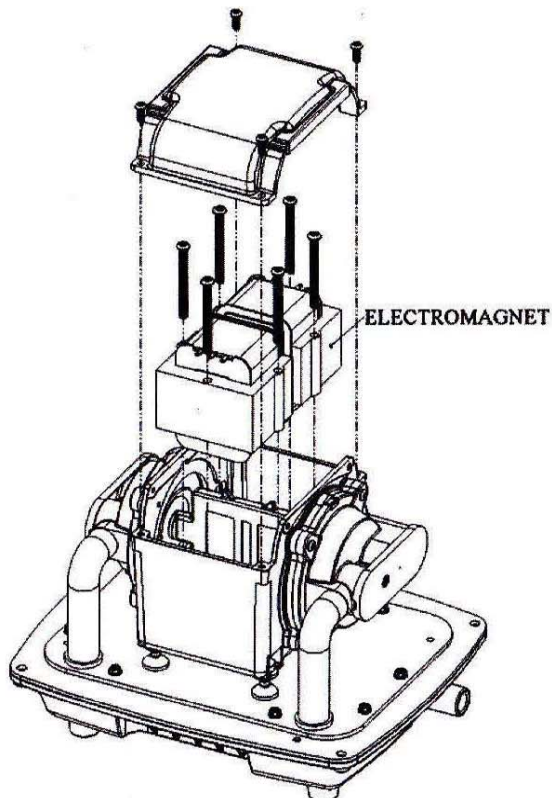

Figure 5
- B. Loosen the four screws atop the coil cover and remove the cover. (As shown in figure 5)